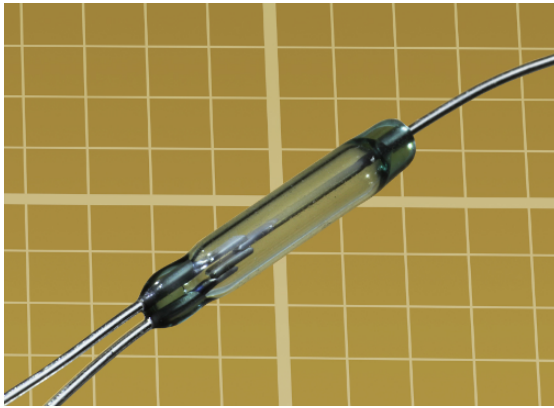

Figure 29-6. *A single-pole, double-throw reed switch.*
- SPDT and DPDT reed switches are available. Figure 29-6 shows a single-pole, double-throw reed switch. The pole of the switch is connected to the single wire at one end. The longer of the two wires at the other end is connected with the contact that is normally closed.